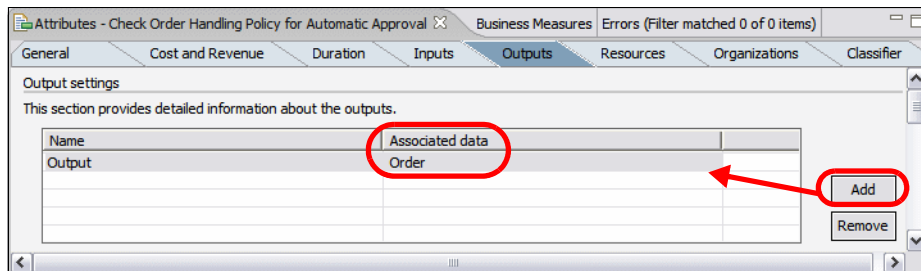

Figure 7-9 Define the output path business item
- ▶ Define the output path business item (Figure 7-9):